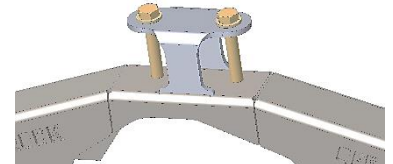

Figure 15
88. Weld upper control arm bracket to truss (see figure 15). **Box Truss:** Be sure holes are aligned in the bracket/truss and leave 2-5/8\" plus some wiggle room for mounting control arms. **Plate Truss:** Using the bracket as a template: place the bracket flush to front edge of truss and directly over the axle centerline, then mark the location of holes to be drilled. Drill the two holes starting with a small drill size and ending with 9/16\" Use plenty of oil. Be sure bolt holes are aligned in the bracket/truss and leave 2-5/8\" plus some wiggle room for mounting control arms before welding.
89. Assemble UCA mounting bolts and nuts from **HK #150** onto truss (see figure 15 & 16). Snug bolts and weld nuts to bottom of truss. **Box Truss:** Stitch weld the truss gusset into the inside of the truss. Ensure holes in gusset are aligned to truss (if applicable).